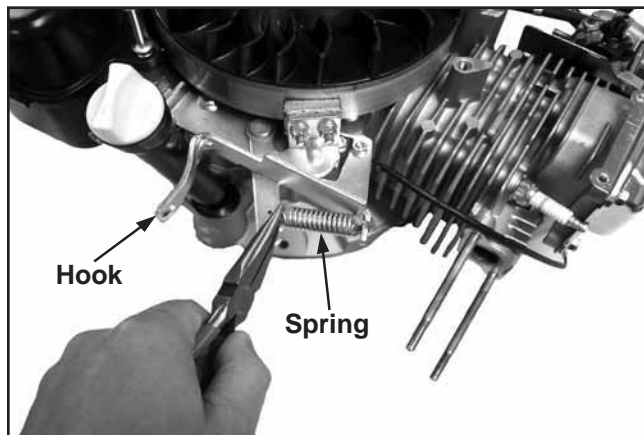

Figure 10-35. Attaching Flywheel Brake Spring.
1. Using a pliers, attach the flywheel brake spring onto the bracket hook. See Figure 10-35.